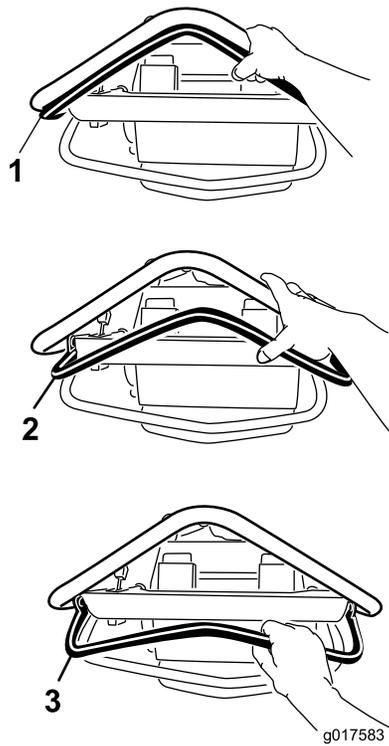

Figure 14
3. Move the throttle control all the way forward to the Choke position (Figure 14).
- To move forward, press the control lever forward (Figure 14). The further forward you push it, the faster the machine will travel.
- To move in reverse, pull the control lever rearward (Figure 14). The further rearward you pull it, the faster the machine will travel.
- To stop, release the control lever (Figure 14).